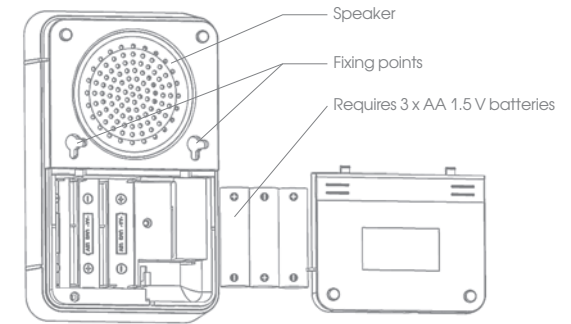

Fig. 5
- Insert the 3 x AA size 1.5 V DC batteries into the chime (Fig. 5) respecting the polarity specified inside the housing.
- Fix the screws at the desired place and hang the chime at a reasonable height using the keyhole (Fig. 5). For mobility purposes, you can remove the chime from its place at any time. (Caution, sometimes it is necessary to move the chime for improved reception).